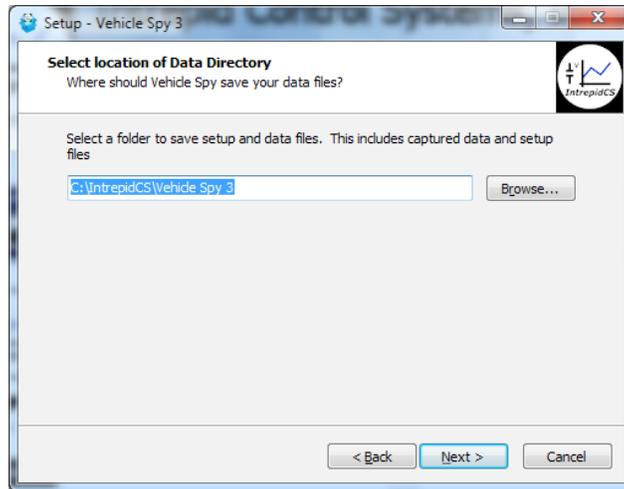

Figure 25: Selecting the Data Directory Location.
8. **Select Data Directory Location:** Next, choose where you want Vehicle Spy 3 to store its data files. We recommend sticking with the provided default, `C:\IntrepidCS\Vehicle Spy 3` (Figure 25). Click to continue.